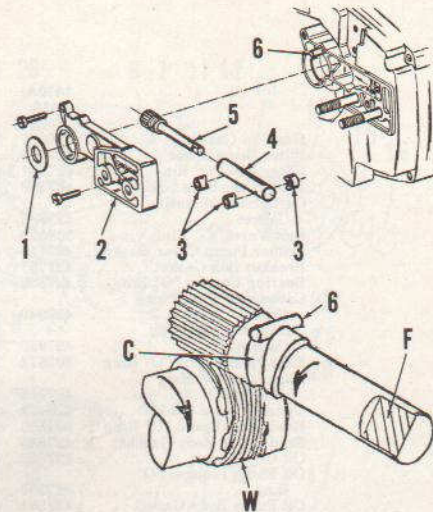

Fig. PR6-9—View of the chain oiler pump. The worm (W) is part of the engine crankshaft. Refer to text.
The oiler reservoir should be filled with Pioneer Chain Oil winter or summer grade, or, if not available, use a good grade SAE 10 to SAE 40 motor oil depending upon prevailing temperature. All models are equipped with an automatic chain oiler pump (Fig. PR6-9). The worm gear (W) on the crankshaft turns the pump shaft and gear (5). The guide pin (6) rides in a cam slot (C) of pump shaft and causes the pump shaft to move back and forth as it rotates. The back and forth movement pumps oil to the chain. The flat (F) on shaft acts as a valve to open the intake port on the outward stroke and the outlet port on the inward stroke. The felt washer (1) should be stuck to the bar pad (2).